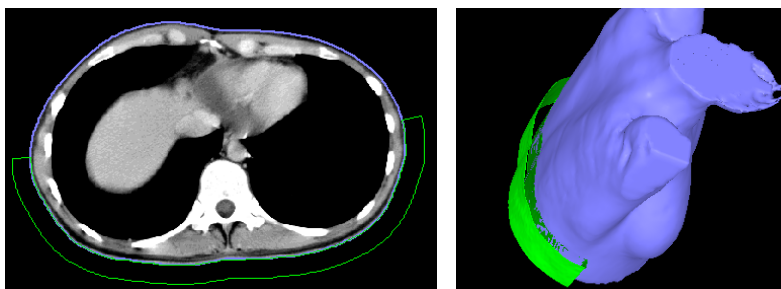

Figure 275 – Generated bolus ROI around the skin surface
- After the fourth point is defined in the current view, the bolus calculation process starts automatically. The bolus is generated and displayed as contours in the image series and as volume in the 3D view (see Figure 275).